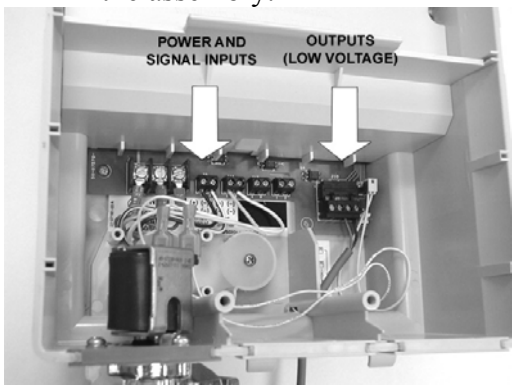

Figure 3
- 4.0 Disconnect the power and signal inputs (Fig. 3) from the power supply assembly. Disconnect any other devices (pressure switch, solenoid, probe, etc.) from the interconnect portion (lower right) of the assembly.